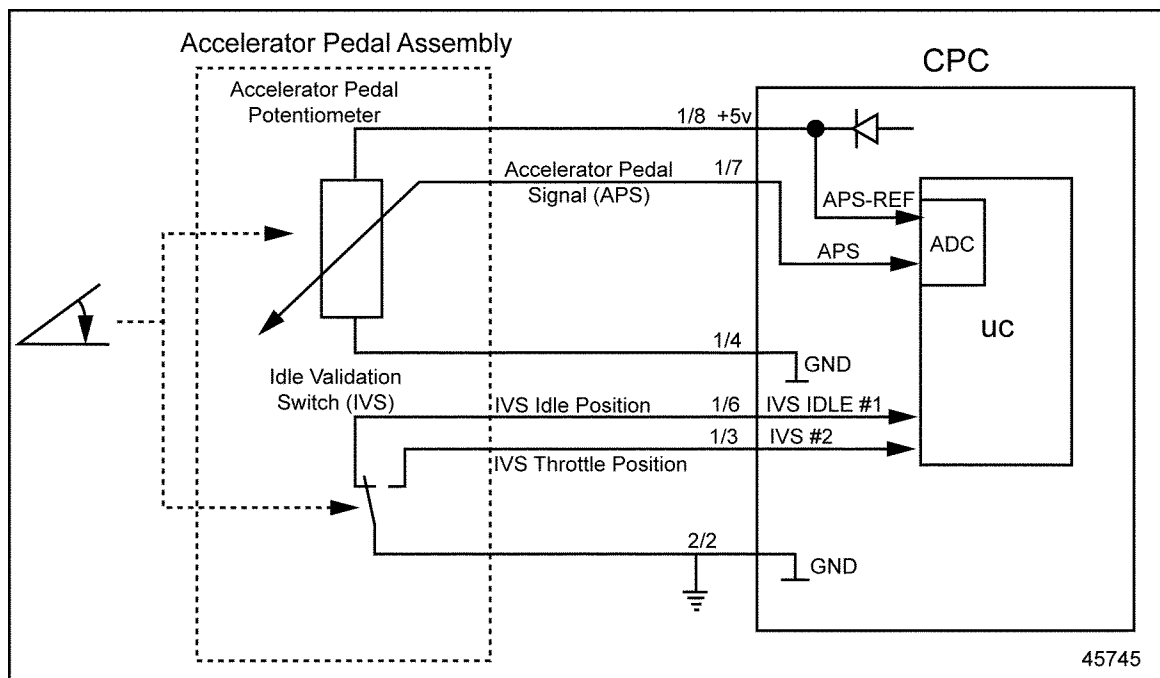

Figure 40-1 Accelerator Pedal Assembly Installation
1. Disconnect the Accelerator Pedal (AP).
3. Measure the voltage between pins 1 and 3 of the AP harness connector. See Figure 40-1.